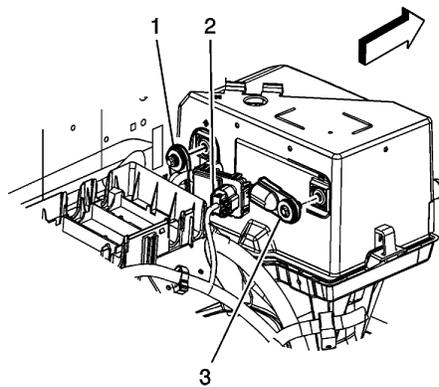

Fig. 1 Battery ground cable
4. Loosen battery ground cable bolt, **Fig. 1**.
5. Remove battery ground cable (2) from battery, **Fig. 1**.
8. Remove battery positive cable (1) from battery, **Fig. 1**.